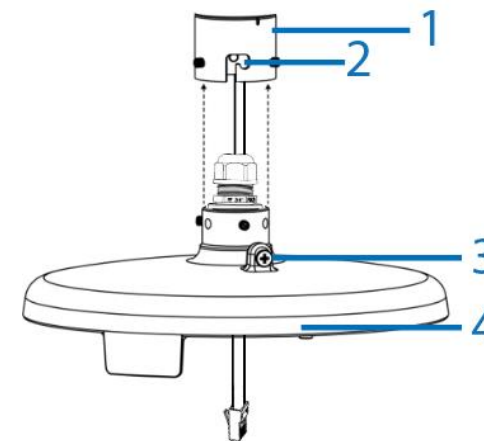
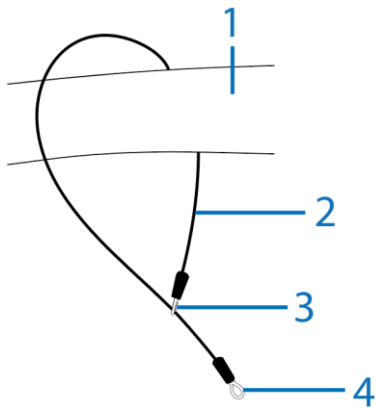

Figure 9
Figure 10
15. Insert the pendant cap (4) (Figure 9) up into the adaptor ring (1) (Figure 9) and rotate the pendant cap clockwise so that it inserts correctly into the 'slot' (2) (Figure 9) on the adaptor ring.
17. Loop one end of the pendant cap safety lanyard (2) (Figure 10) around the wall mount arm (1) (Figure 10) and then through the hole on the other end of the pendant cap safety lanyard (3) (Figure 10).
18. Remove the screw (3) (Figure 9) on the pendant cap and insert it through the hole (4) (Figure 10) on the safety lanyard.